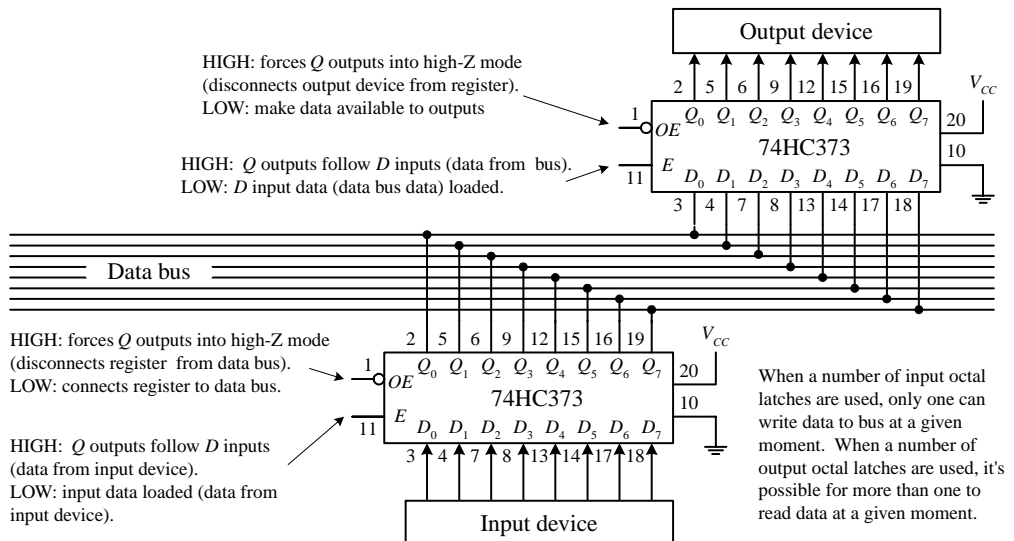

FIGURE 12.133
The 73xx373 octal latch contains eight D-type “transparent” latches. When its enable input (E) is high, the outputs (Q_0 – Q_7) follow the inputs (D_0 – D_7). When E is low, data present at the inputs are loaded into the latch. To place the output in a high-impedance state, the output enable input (\overline{OE}) is set high. Figure 12.133 shows a simple bus-oriented system that uses two 73HC373s to communicate with an input device and output device. Again, like the octal buffers, control signals are typically supplied by a microprocessor.